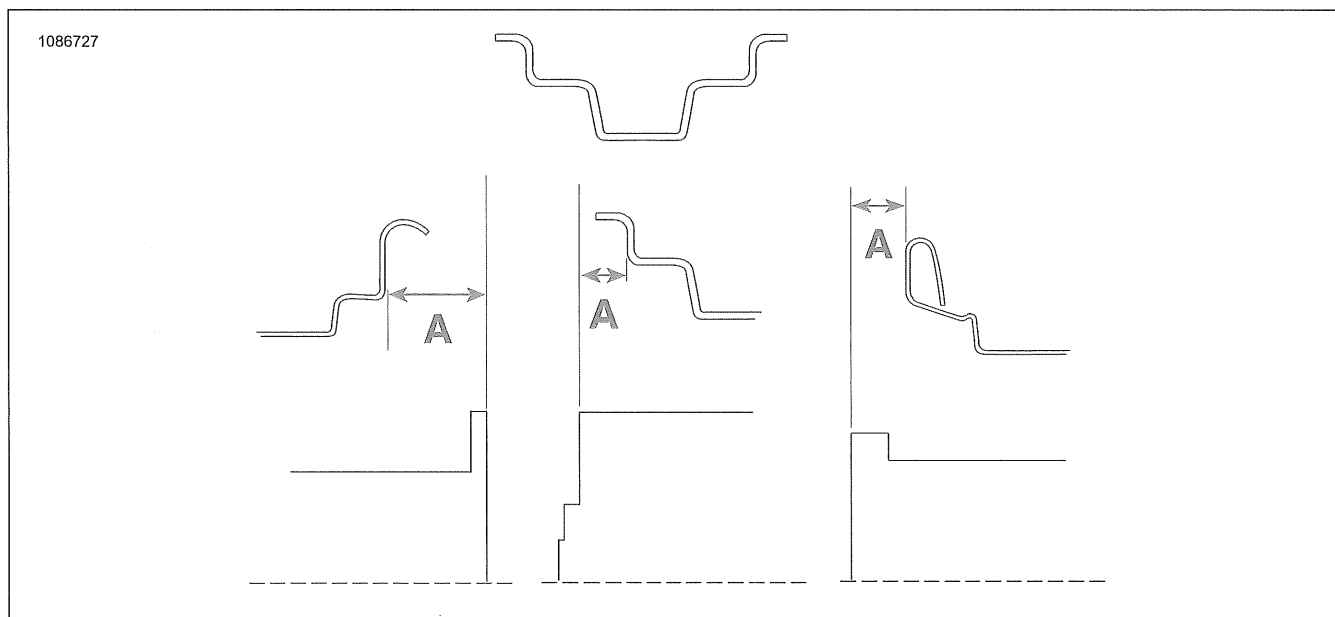

Figure 3-18. Laced Wheel Hub Offset Dimensions
- b. See Figure 3-18. Measure the distance from the straightedge to the location shown to determine distance A.